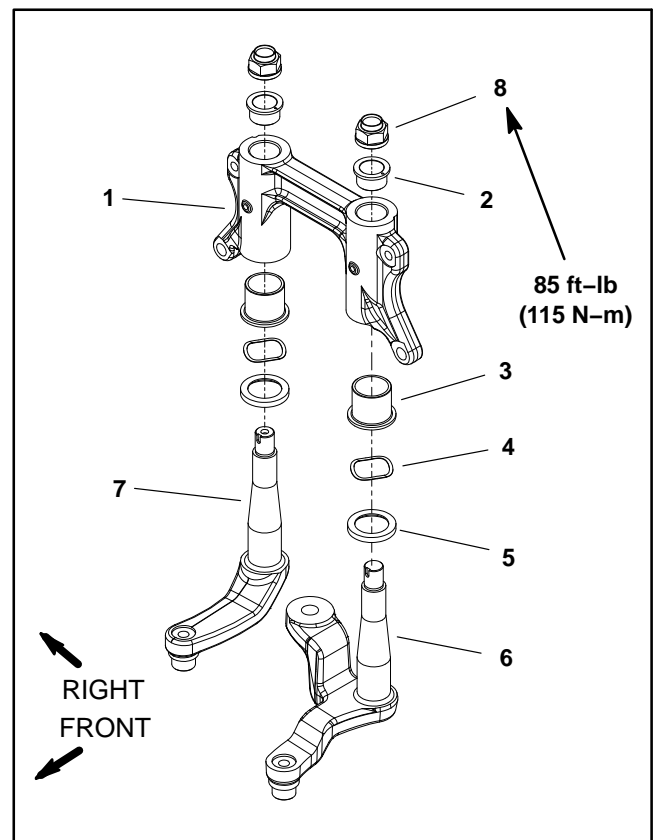

Figure 23
IMPORTANT: If staked-in portion of spindle nut (item 8 in Fig. 23) is not released before nut removal, steering linkage arms may be damaged.
A. If spindle nut (item 8 in Fig. 23) is to be removed from idler or pitman arm, align a flat punch with the staked-in portion of the spindle nut. Use a hammer to carefully drive the punch into the nut to release the staking. Remove the spindle nut from the steering linkage arms. Discard spindle nut after removal.
A. If flange bushings (items 2 and 3 in Fig. 23) were removed from pivot mount, make sure that new bushings are pressed fully into the pivot mount.
B. Install and torque **new** spindle nut (item 8 in Fig. 23) to **85 ft-lb (115 N-m)**. Deform spindle nut into slot in idler arm or pitman arm after torquing nut.
2. If steering linkage (item 19) and center link (item 20) assembly was removed from vehicle:
A. Position assembly to frame and secure with removed fasteners. Torque lock nuts (item 33) from **40 to 50 ft-lb (55 to 67 N-m)**.
3. To install tie rod (item 11) to vehicle: